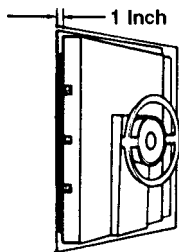

Figure 4-10. Open Door One Inch
a. **LIQUIDS Cycle:** (See Figure 4-10)